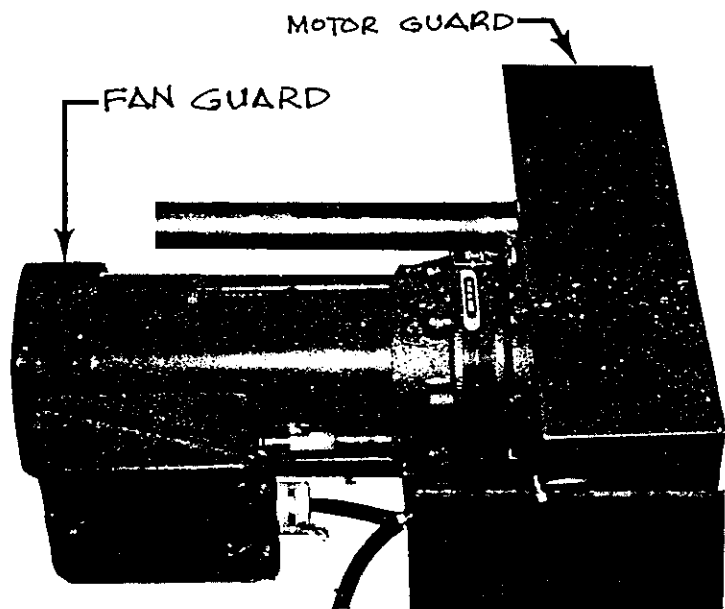

Figure 15.1.
STEP 15.1: Check the fan guard at the end of the motor. Remove the fan guard by removing the three (3) bolts as shown. Straighten the bent blade(s) to clear the fan guard or bend the fan guard to clear the fan blades. Re-install the fan guard. See Figure 15.1.